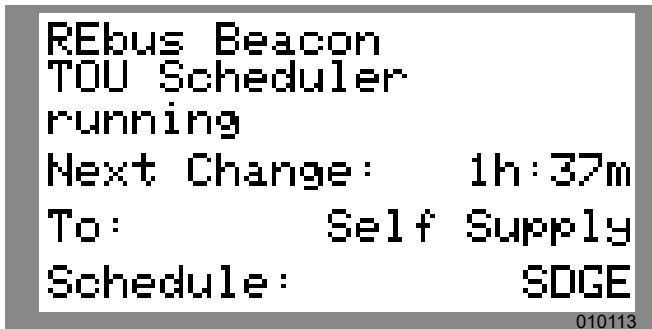

Figure 6-18. Disabling Beacon (1 of 3)
1. See Figure 6-18. Navigate to the Generac Beacon device page and press the center button to enter the device menu.